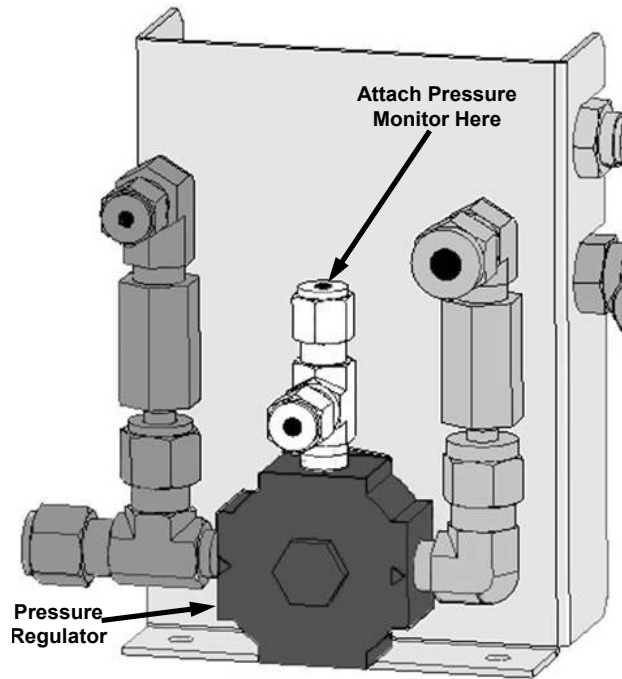

Figure 5-3. Pressure Regulator Monitor Connection (T703 and T703U)
2. Connect a pressure meter to the Regulator Pressure measurement fitting (see Figure 5-3). This fitting is located on the backside of the regulator assembly.